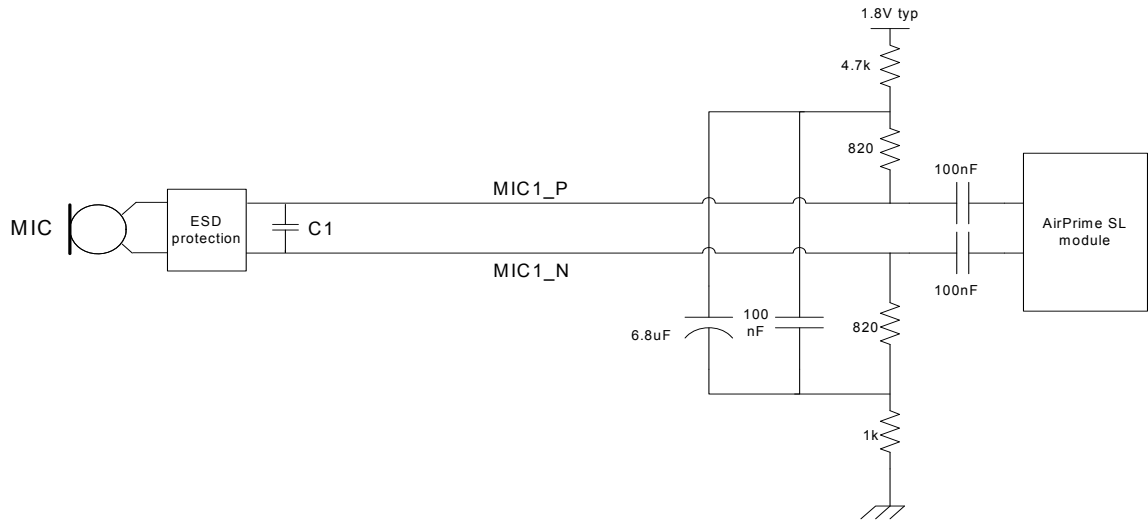

Figure 4-6: Example—MIC differential connection without an LC filter
- If no filter is used, capacitors must be removed and the coil replaced by  $0\Omega$  resistors resulting in an equivalent circuit as shown in Figure 4-6 on page 58.